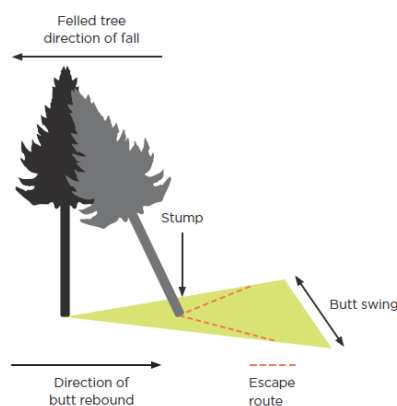

Figure 25: Danger zone extending back into the escape route where a felled tree hits another and causes a rebound
21.11.5 Any of these situations may compromise the escape route. Where a hung-up tree kicks back off the stump, the danger zone extends back behind it (Figure 25).